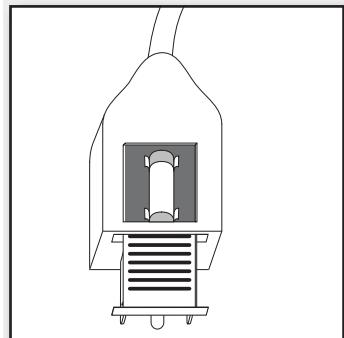

Figure 5
3. Carefully remove the fuse from the clips holding it on the top and bottom. Figure 5.